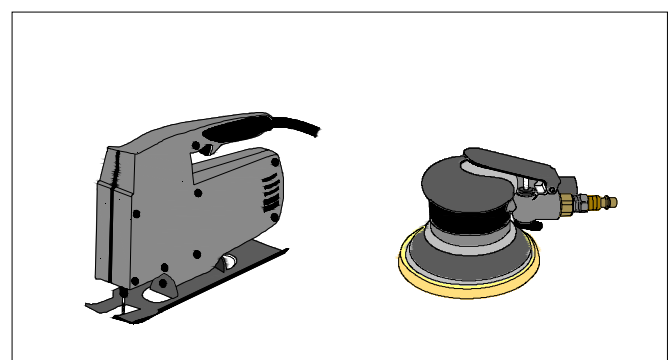

Figure 3D
- Jig Saw (FIG. 3D)
- Random Orbital (FIG. 3D)